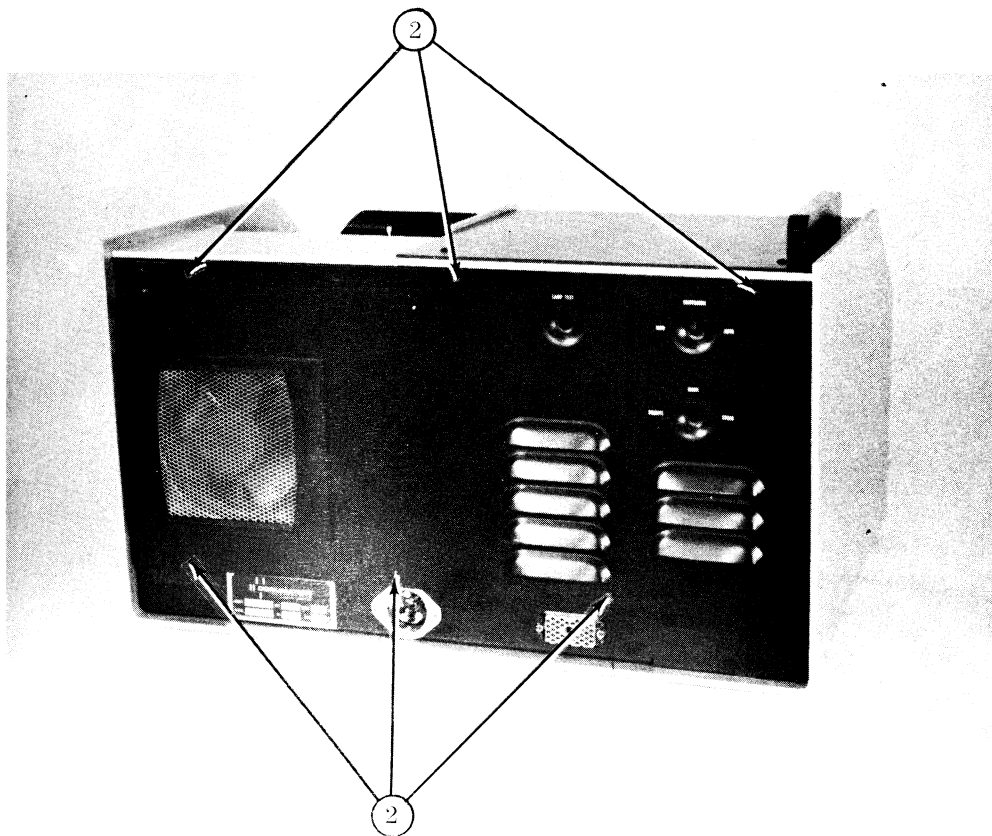

Figure 9-2. Rear Panel Removal
- c. Using a 5/64 Allen wrench, remove six screws ②, figure 9-2, which hold rear panel.